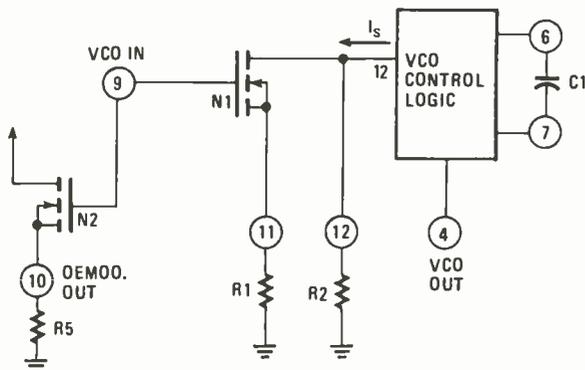
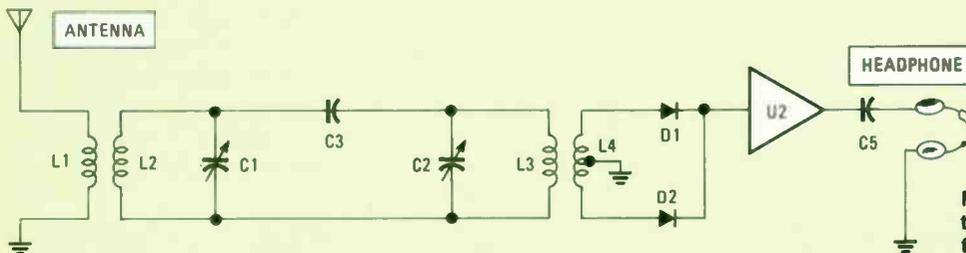

Fig. 5—This is the simplified schematic of the PLL's voltage-controlled oscillator. Current I_s regulates the VCO output frequency. N2 is the source follower.
Fig. 2—The tuning circuit itself—without the fancy switching—is a conventional full-wave-rectified crystal radio.
The VCO, whose simplified schematic is shown in Fig. 5, is a 50% duty-cycle oscillator with a frequency offset function. To understand the VCO's operation, assume that resistor R2 is not connected to pin 12. This will leave only resistor R1, capacitor C1 and transistor N1 as the sole frequency-determining components. If the voltage present at the transistor's gate is zero, it will be at cutoff and R1 is effectively out of circuit, making the charging current I_s and the frequency zero (or almost zero). If now we make the control voltage (VCO_{in}) equal to V_{DD}, N1 will turn on and both the current I_s and the frequency will be maximum. At intermediate voltage values, the current I_s and the frequency will be proportional to the control voltage. For maximum linearity, the value of R1 should be large compared with the transistor's "on" resistance. (Let R1 > 10,000-ohms.)
If I have lost you, refer to Fig. 2 which shows how we handle bit values. Although each bit can have a bit value of either 1 or 0, the 1s and 0s, can represent small or large decimal values. Let's start off with the single bit shown in Fig. A of diagram 2. If the bit is set low, the decimal, or numeric value of the bit is zero. If the bit is set high the decimal value of the bit is 1. If we want to represent the value 3 we must add another high bit *to the left*, as shown in Fig. B of diagram 2. Since the first bit represents the decimal value 0 or 1, the new bit must represent the values 0 or 2; zero when the bit is low, 2 when the bit is high. The total value of both bits is the sum of the individual bit values. We now have the ability to bit-represent the decimal values 0 (00), 1 (01) and 3 (11). If we add a third bit to the group it must represent a 4 when it is high because the first two bits can represent all the decimal values from 0 to 3. If all three bits are high the bits represent a value of 7—the sum of the bit values 4, 2 and 1. Let's expand the illustration to a full byte—the eight bits shown in Fig. C of diagram 2. Inside each box representing a bit is its decimal value when the bit is high. If the bits are 00101011, as shown in Fig. C of diagram 2, they represent the decimal value 43. (Remember, we read the bit values from right to left). Try working it out for yourself; simply add up the decimal values of all the high bits. What's interesting about a bit-value is that no other combination of bits can sum up to or represent the value 43.
Fig. 2—Assigning each bit in a byte a numeric value and summing the values of the "ON" bits allows us to represent numeric values. For A the value is 1 because the LSB is the only one ON. In B various values (0-7) are created using just 3 bits. The number 43 can be represented as in C.
Each byte-sized unit of storage in a computer really consists of eight individual bit-storage cells. The computer's internal software might set aside one single byte to indicate partial or overall computer status. As shown in Fig. 5, each bit of a single byte can represent a specific hardware state, just as the bits in Fig. 2 were used to represent the status of a fire detector. Bit 1 is the first disk drive. If the drive is ready, bit 1 is high. Bit 2 is the second disk drive's status. Bit 3 is the status of a third disk drive, while bit 4 is the status of a fourth disk drive. Bit 5 is the printer status: high if the printer is
odes, and variable tuning capacitors (C1 and C2) made out of double-sided printed-circuit boards. (The functional equivalent of the circuit is shown in Fig. 2.) Since the 365-pF variable capacitors needed for C1 and C2 have become more expensive than gold—assuming you could locate them—they are synthesized from sections of printed-circuit board: the tuning is done by switches that vary the number of boards in the circuit.